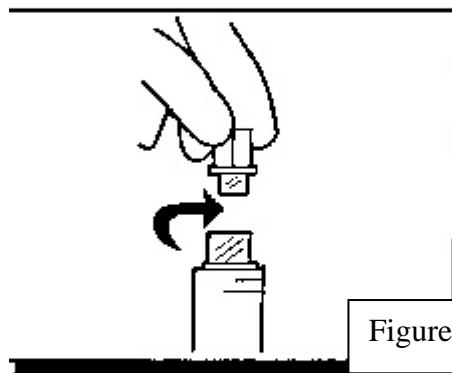

Figure 2
3. Remove the protective cap from the end of the prefilled syringe (figure 2).